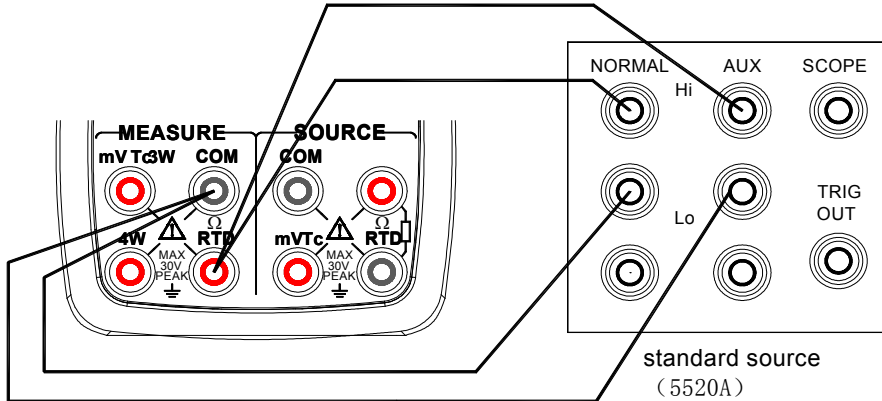

Figure 13 Calibrating all ranges of ohms
Step 3: Connect the lead cables to the output terminals of the standard source as shown in Figure 13.(The 2 wire compensation of 5520A must be open)